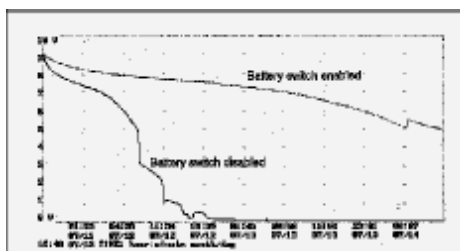

Figure 7-8: How the Battery Switch Extends Battery Life
It extends battery life by only drawing power, when necessary, to meet the input requirements of the transducer or transmitter circuit that you want to monitor (Figure 7-8).
1. The rated voltage of a battery only applies to initial use. Once under load, the voltage will decrease gradually until completely drained (refer to Figure 7-8). By knowing how the battery voltage is affected through use you can make sure that the voltage requirements of your external transducers will be met. A good rule of thumb to follow is to exceed the minimum required input voltage for your transducers by at least two times (where acceptable).